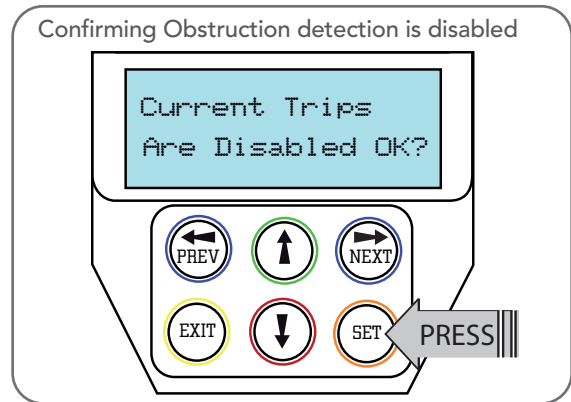

Fig I.1
- No current trip obstruction detection is available when using timed travel. Press SET if you accept this (**Fig. I.1**).